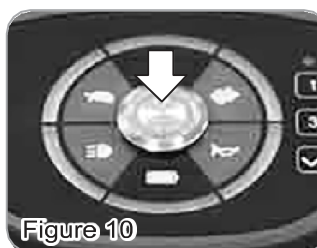

Figure 10
- Press power button to turn on/off (Figure 10). See section 4-1 for details.